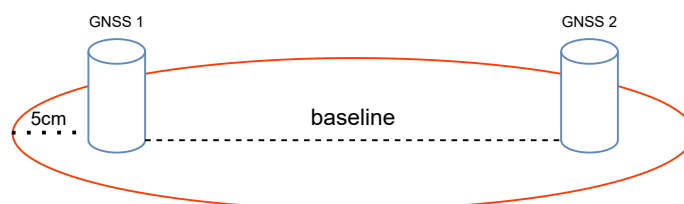

Figure 4.3.: GNSS antenna placement ellipse
- GNSS antenna placement with respect to the Vision-RTK 2 sensor can have various impacts on performance. We recommend always placing the sensor at any point between the two GNSS antennas to avoid any lever arms effects or within an ellipse, as shown in Figure 4.3. Ideally, the sensor should be placed on the line between the two antennas. However, due to design considerations (e.g., camera visibility, mounting options), this might not be an option. Therefore, an ellipse that spreads up to 5 cm from the antennas is acceptable.